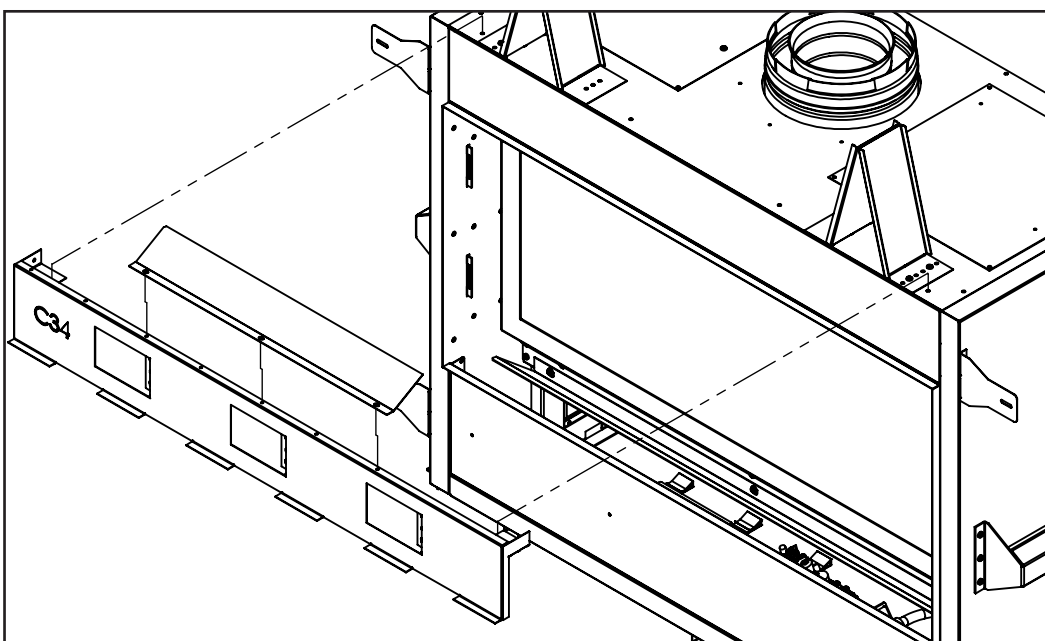

Figure 25. Combustible Panel C34
Step 8: Attach your deflector to your panel configuration as shown below (Figure 25, 26, 28)